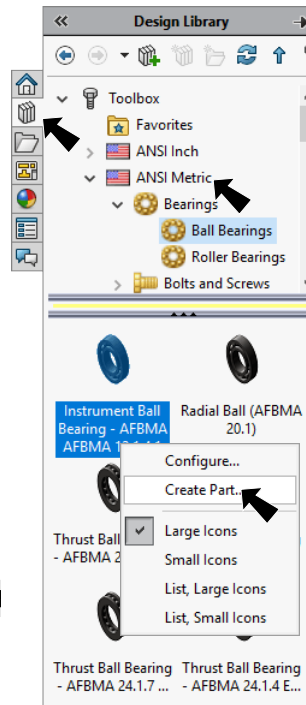

Fig. 2
- Step 1. Click **Design Library** tab  in the Task Pane (right side of graphics area), **Fig. 2**.
- Step 3. **Right click Instrument Ball Bearing...** and click **Create Part** from menu, **Fig. 2**.